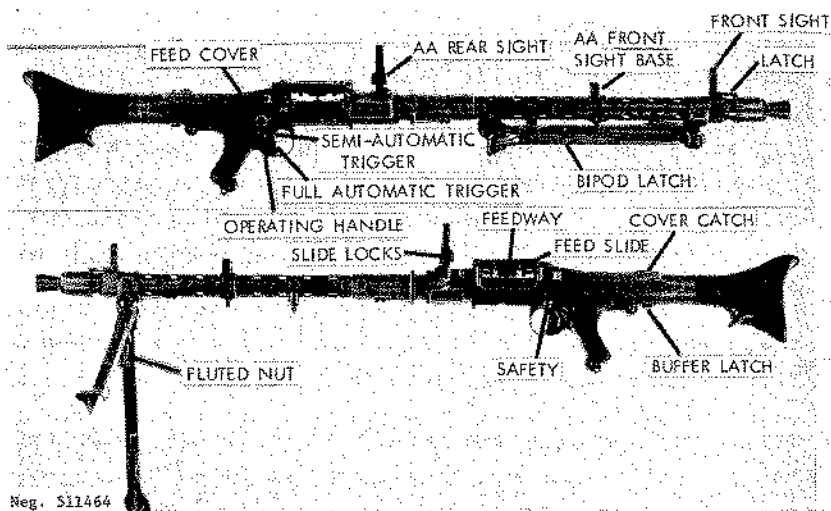

Figure 165. MG34 light machinegun.
a. The MG34 (fig 165) was developed in Germany in the 1930's as a general purpose machinegun. It could be used as a light, heavy, antiaircraft, or tank machinegun. This weapon is notable for its extremely high cyclic rate of fire and its fast, simple, barrel change. The air-cooled, belt-fed, recoil-operated MG34 is a closely fitted, intricately machined weapon that requires exacting care and cleaning to keep it operating. The high rate of fire requires a nice touch on the trigger to limit bursts to 8 or 10 rounds.
b. There are several ways to load the MG34. The preferred method is to press the cover catch (fig 165) forward and lift the
cover. Place the belt in the feedway (fig 165), feeding in from the left with open side of the links down and the first cartridge positioned in the lengthwise slot in the feed tray. Make certain that the safety (fig 165) is rotated forward, pull the operating handle (fig 165) to the rear, and thrust it fully forward. Push the feed slide (fig 165) to the left and close the cover; strike the rear of the cover with the hand to insure that the cover is latched.
e. Swing the front and rear sights to an upright position, squeeze the latch (fig 165) in the bipod legs, and swing the bipod forward. The height of the bipod can be adjusted by turning the fluted nut between the bipod legs; this controls the spread of the legs. Set the rear sight for range by pressing the slide locks, and move the slide until its upper edge is aligned with the number that corresponds to the range in hundreds of meters.
a. To disassemble the weapon, clear the gun (para 199h), but do not fold the bipod or close the cover. Press the buffer latch (fig 165) and turn the butt counterclockwise until it springs free of the receiver. **CAUTION:** A strong driving spring is released. Pull the driving spring out of the rear of the receiver if necessary. Hold a hand over the rear of the receiver and pull the operating handle rearward. This will move the bolt to the rear so that it can be grasped and removed.